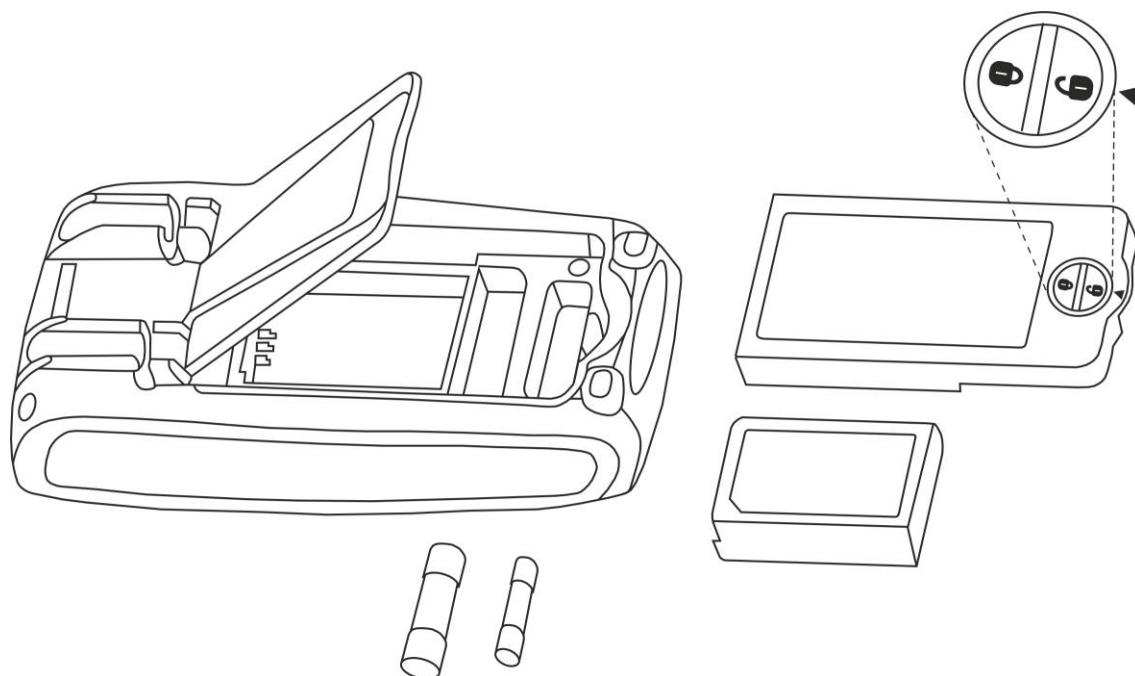

Fig. 34: Replacement of internal fuses
2. Turn the fastening screw of the battery compartment cover from position “” to position “” and remove it (see Fig. 34)